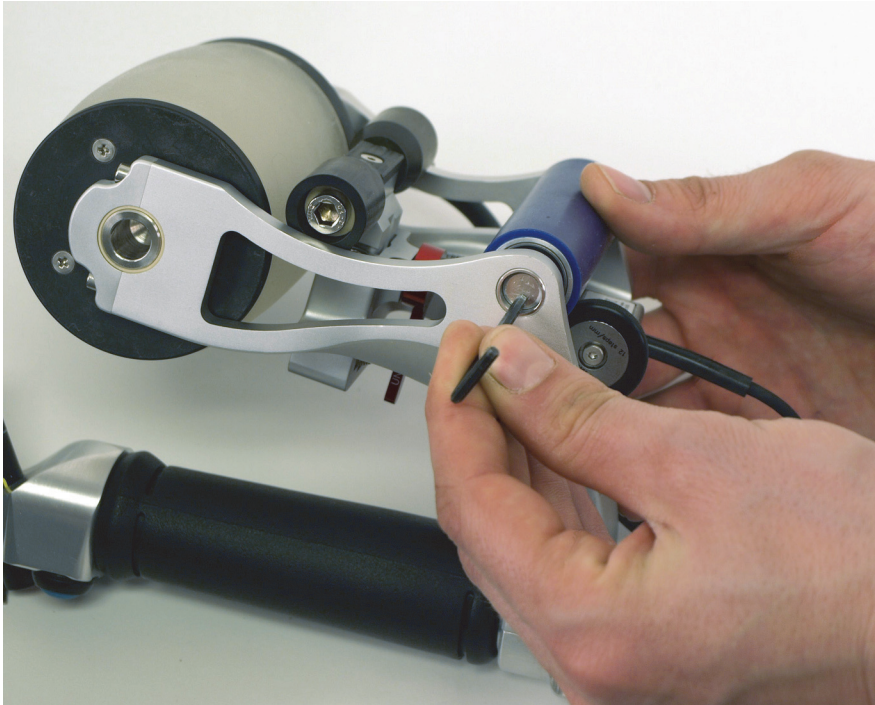

Figure 6-34 Pushing loose the rear roller's axle from its seat
2. Gently apply pressure to the rear roller's axle on the end opposite the retaining screw to free it from its seat in the RollerFORM frame (Figure 6-34 on page 113).